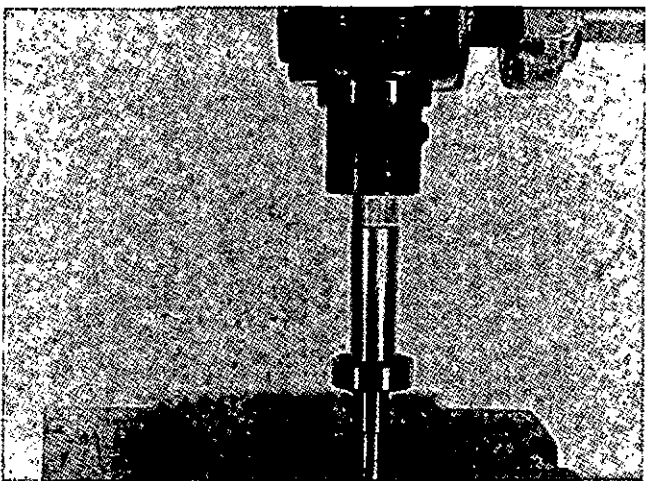

Fig. 3-9, (F541). Press the drive bearing on the shaft.
1. If the bearing or the shaft is replaced, lubricate the shaft with high pressure lubricant. Use 3375172 Driver to press the bearing over the shaft. Press against the inner race of the bearing, Fig. 3-9.